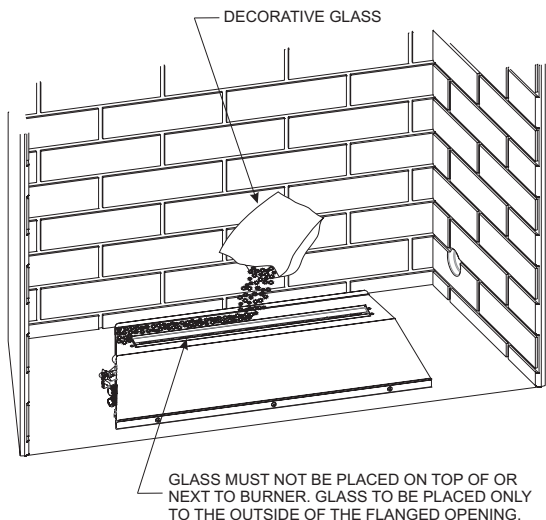

Figure 30
3. To install the Decorative Glass, cut off a corner of the plastic bag and proceed to apply the glass to the rear shelf on the Loft burner (area behind the burner). Apply only enough glass to the Top Cover to cover the black metal surfaces. Do not allow the glass to fall around the burner tube. **See Figure 30.** Apply the remaining decorative glass to the front sloped surface of the Top Cover. Start by placing the glass along the front edge of the top cover, then gradually place the glass up the sloped top until completely covered. Do not allow the